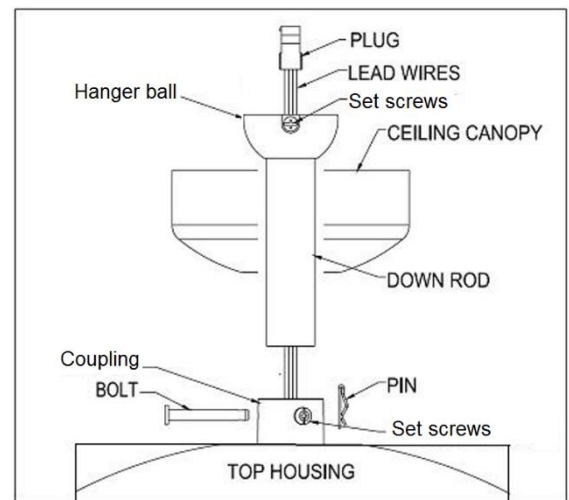

Fig. 4
Install the down rod to the motor (fig. 4)
1. Loosen the hanger ball via the set screw. (see Fig.4)